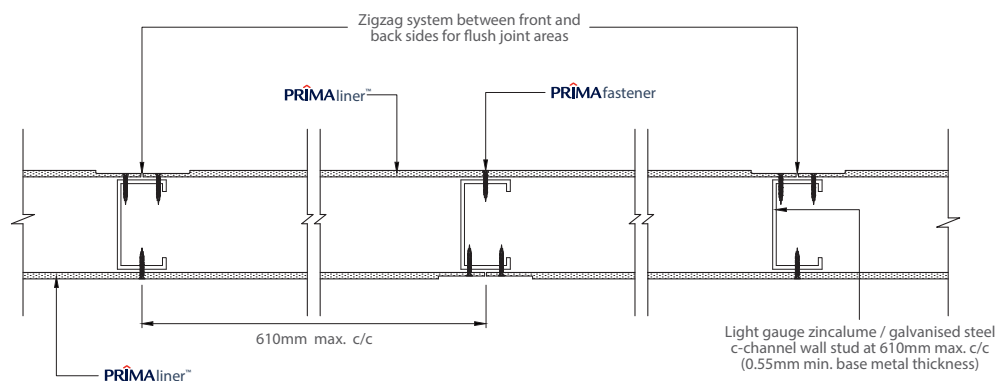

Figure 8: Vertical Flush Joints in Zigzag System between Front and Back Sides.
- Install the vertical flush joints in zigzag pattern. Vertical flush joints at both partition sides shall not connected at one point in the same stud frame. Refer to Figure 8 for vertical flush joints in zigzag system between front and back wall sides.